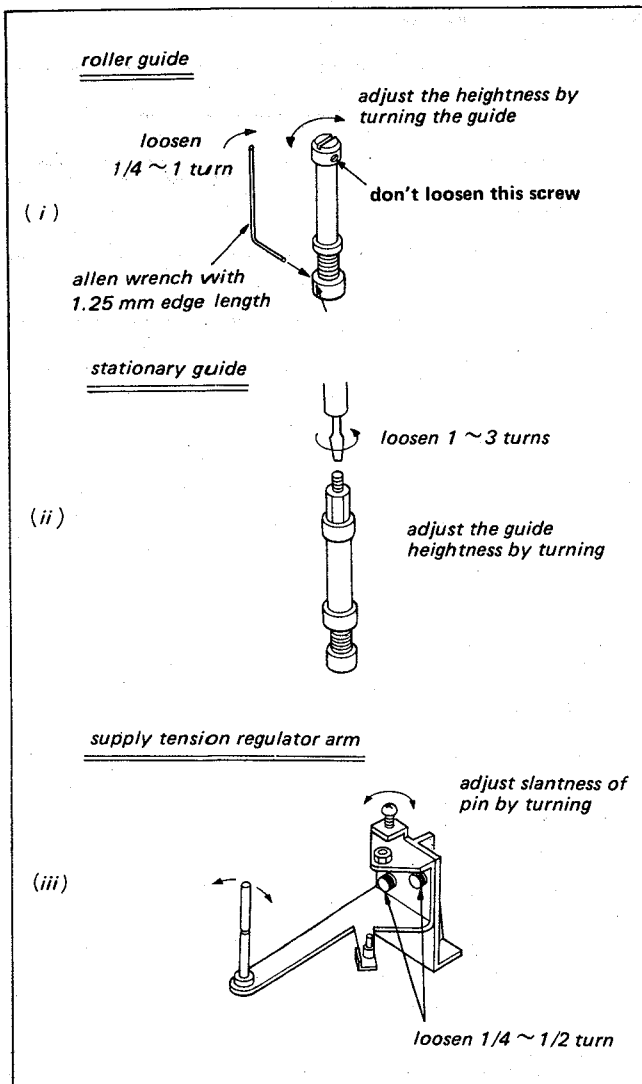

Fig. 6-20. Adjustment of tape guides
- If waveform envelope does not remain flat when the TRACKING Control is manipulated, adjust the Tape Guide II, the Tape Guide III, the Tape Guide IV, the Tape Guide V and the Supply Tension Regulator referring Fig. 6-20. However, do not adjust the S.Tension Regulator, as much as possible.